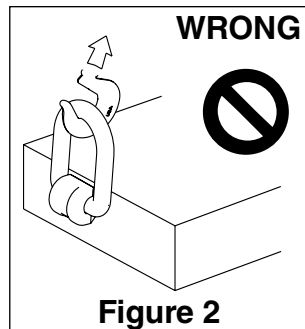

Figure 2
- Apply partial load and check proper alignment. There should be no interference between load (workpiece) and weld-on pivoting link (Figure 2).